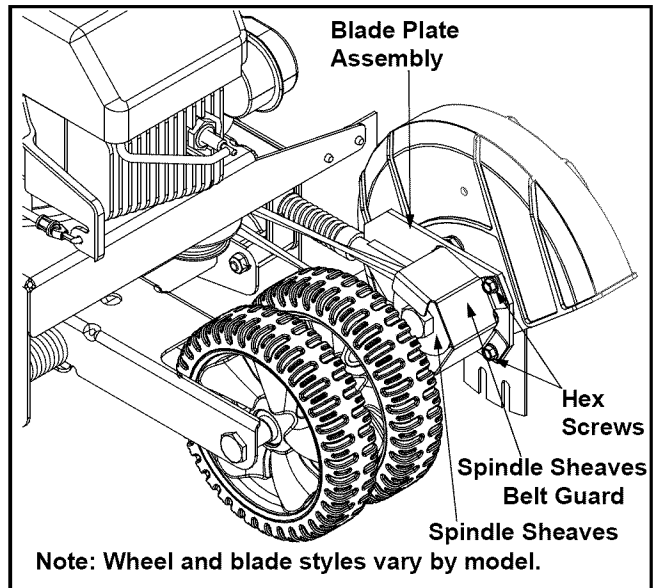

Figure 11
- Remove the spindle sheaves belt guard by removing the two self-tapping screws which secure it to the blade plate assembly. See Figure 11.